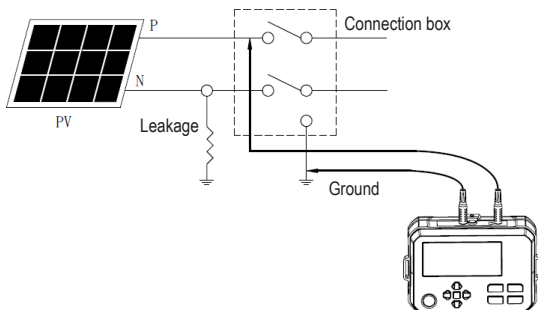

Figure 14.5 Measure between P and N in open-circuit state
2. Connect the tester's leads as shown in Figure 14.5:
3. Select the PV 1000 V or PV 500 V range, ensuring the array open-circuit voltage is below the selected test range. See: “19.10 Photovoltaic (PV) insulation resistance measurement” on page 96 .